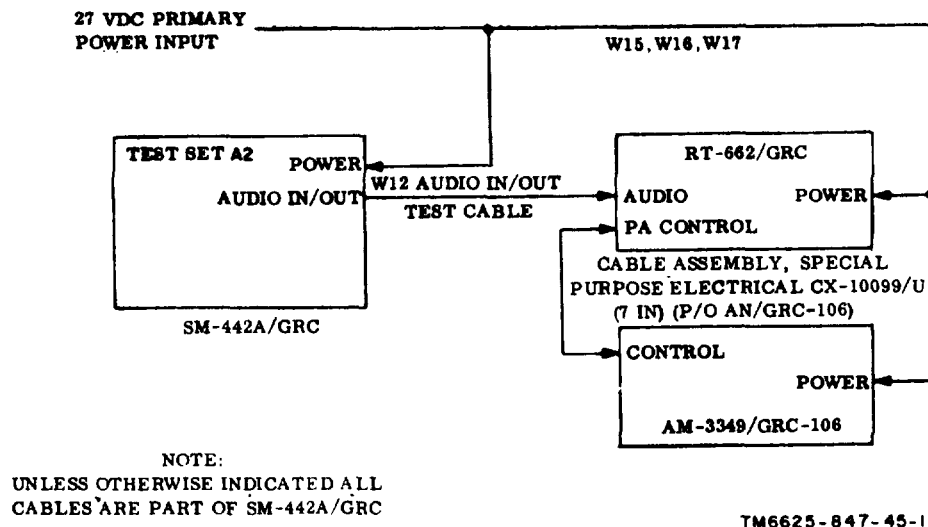

Figure 1-2. Radio Set AN/GRC-106 testing, block diagram.
a. Figure 1-2 is a functional block diagram showing the test set connected for system testing of AN/GRC-106. Test cable W12 is the only connection required between the RT-662/GRC and the AUDIO IN/OUT connector on the test set. Test cable W12 connects the two sets of audio test points, AUDIO IN 600 (ohms) and 50 (ohms) and AUDIO OUT 2 WATT and 10 MW, on the front panel of the test set, to the RT-662/GRC. The AUDIO IN test points connect an external audio source of either high or low impedance to the AN/GRC-106. The AUDIO OUT test points measure the two audio output voltages of the AN/GRC-106. The test set also provides for keying the AN/GRC-106 by connecting the KEY switch, on the front panel of the test set, to the RT662/GRC unit through test cable W12.